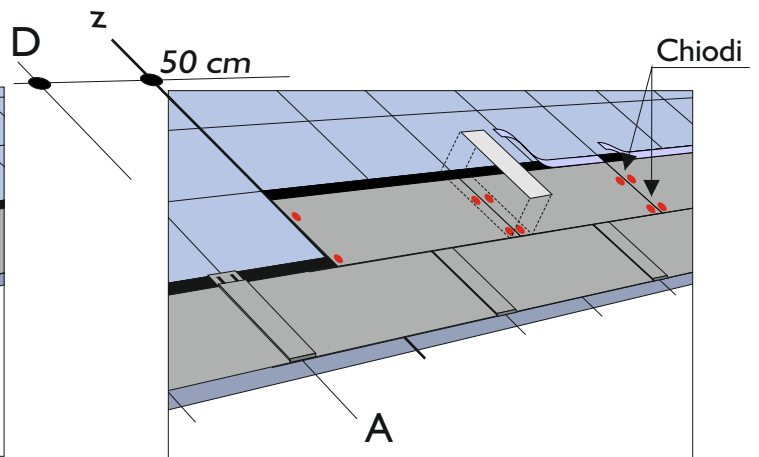

Fig. 9 - Second row of shingles
- The second row starts by aligning PRESTIGE ULTIMETAL shingle along the line z (Fig. 9) then nail;
- remove the protection of the self adhesive fascia and install the "Compact Strip" (Fig. 9);